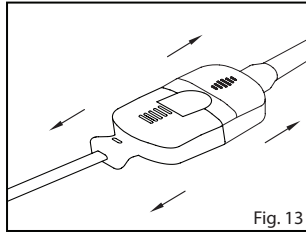

Fig. 13
1. Refer to **Fig. 13**. Pull firmly on the sensor connector to remove it from the patient cable.